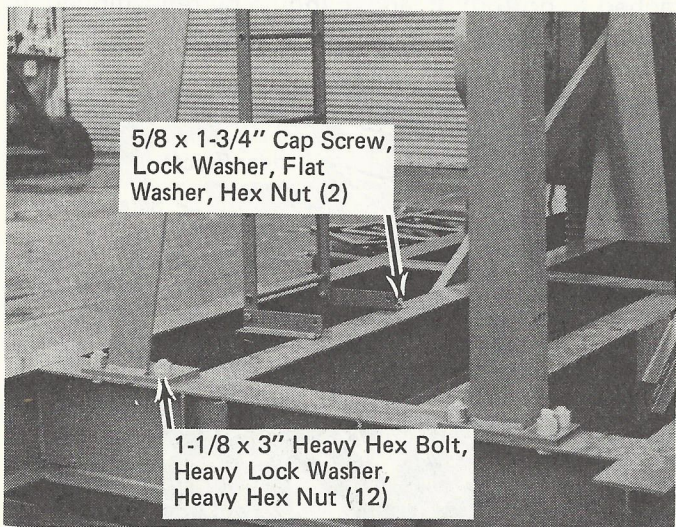

Figure 10. Installation of Samson Post
7. After ladder has been installed, hoist Samson post with ladder (total weight of 2122 pounds) into position on mainframe as shown in figure 10 and attach to mainframe with bolts at each leg. The bolts used to attach the equalizer beam and Samson post legs for shipment must be used to complete attachment of Samson post.
8. Attach angles at bottom of ladder to mainframe with bolts shown in figure 10. Tighten all ladder attachment bolts.